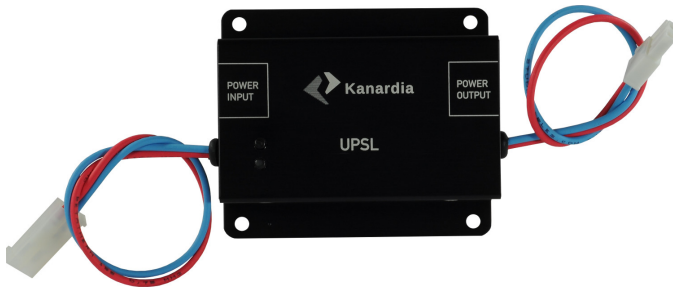

Figure 16: UPS-L – light Li-Po external backup battery.
- If your Horis does not have a backup battery, you can use our external backup battery module, P/N: UPS-L. This will make sure that there is enough voltage available for Horis. See Figure 16. Please note that UPS-L has limited capacity and it can serve one Horis only.